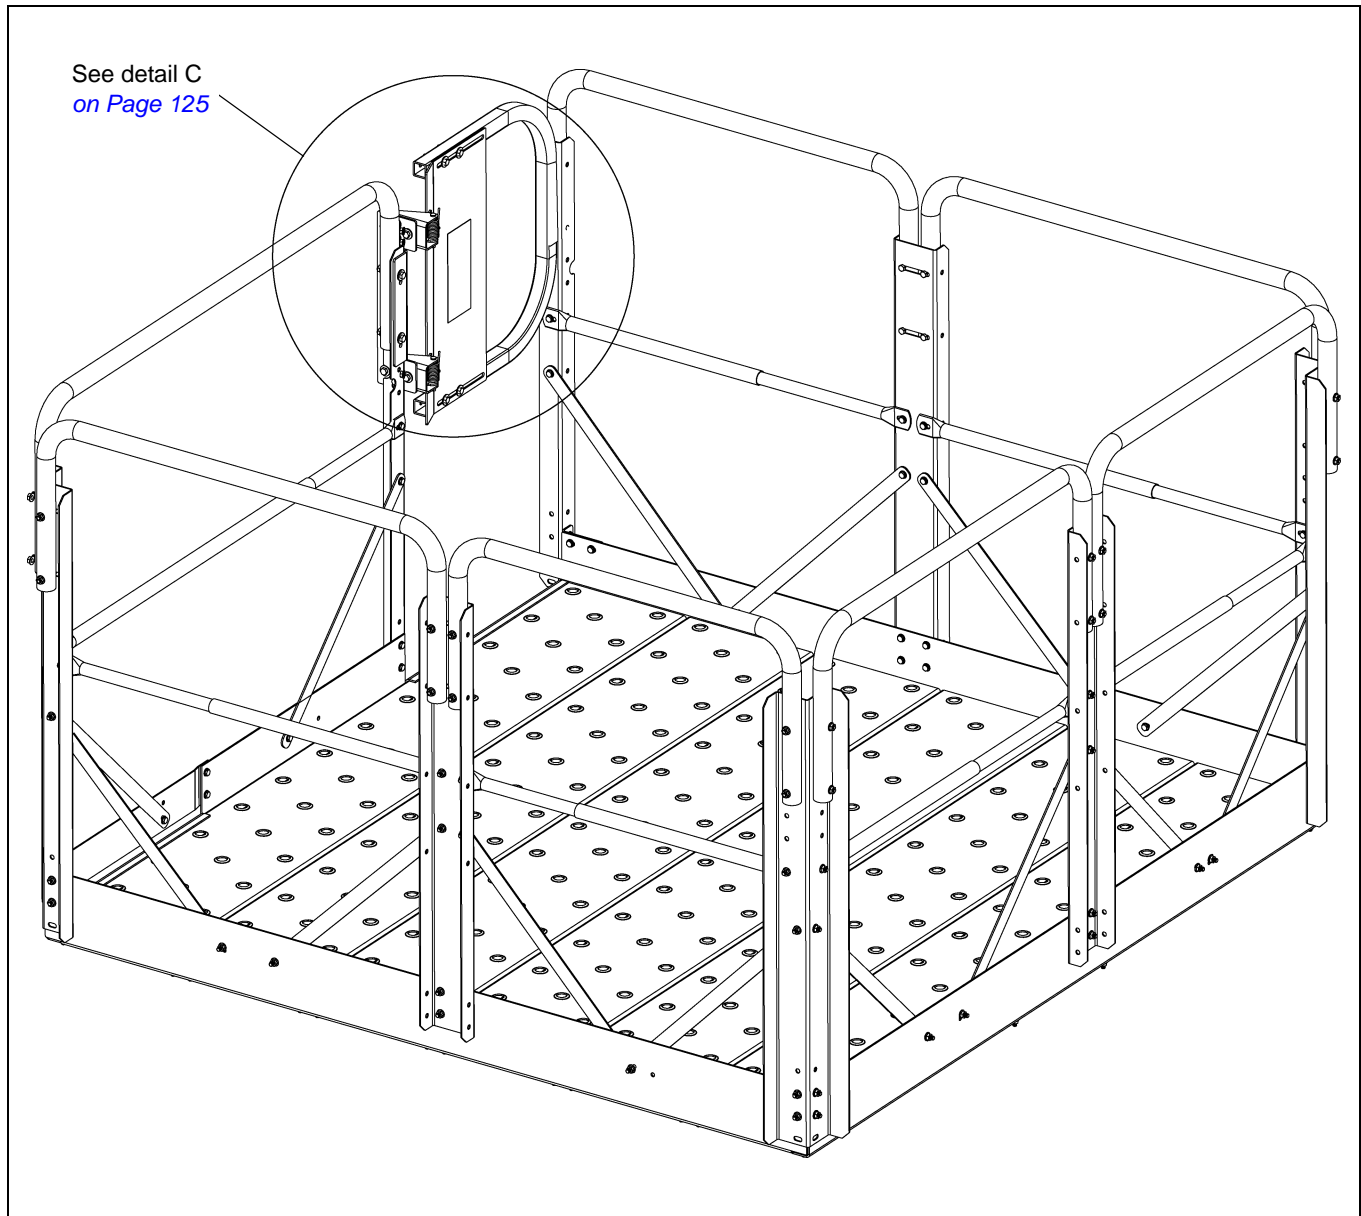
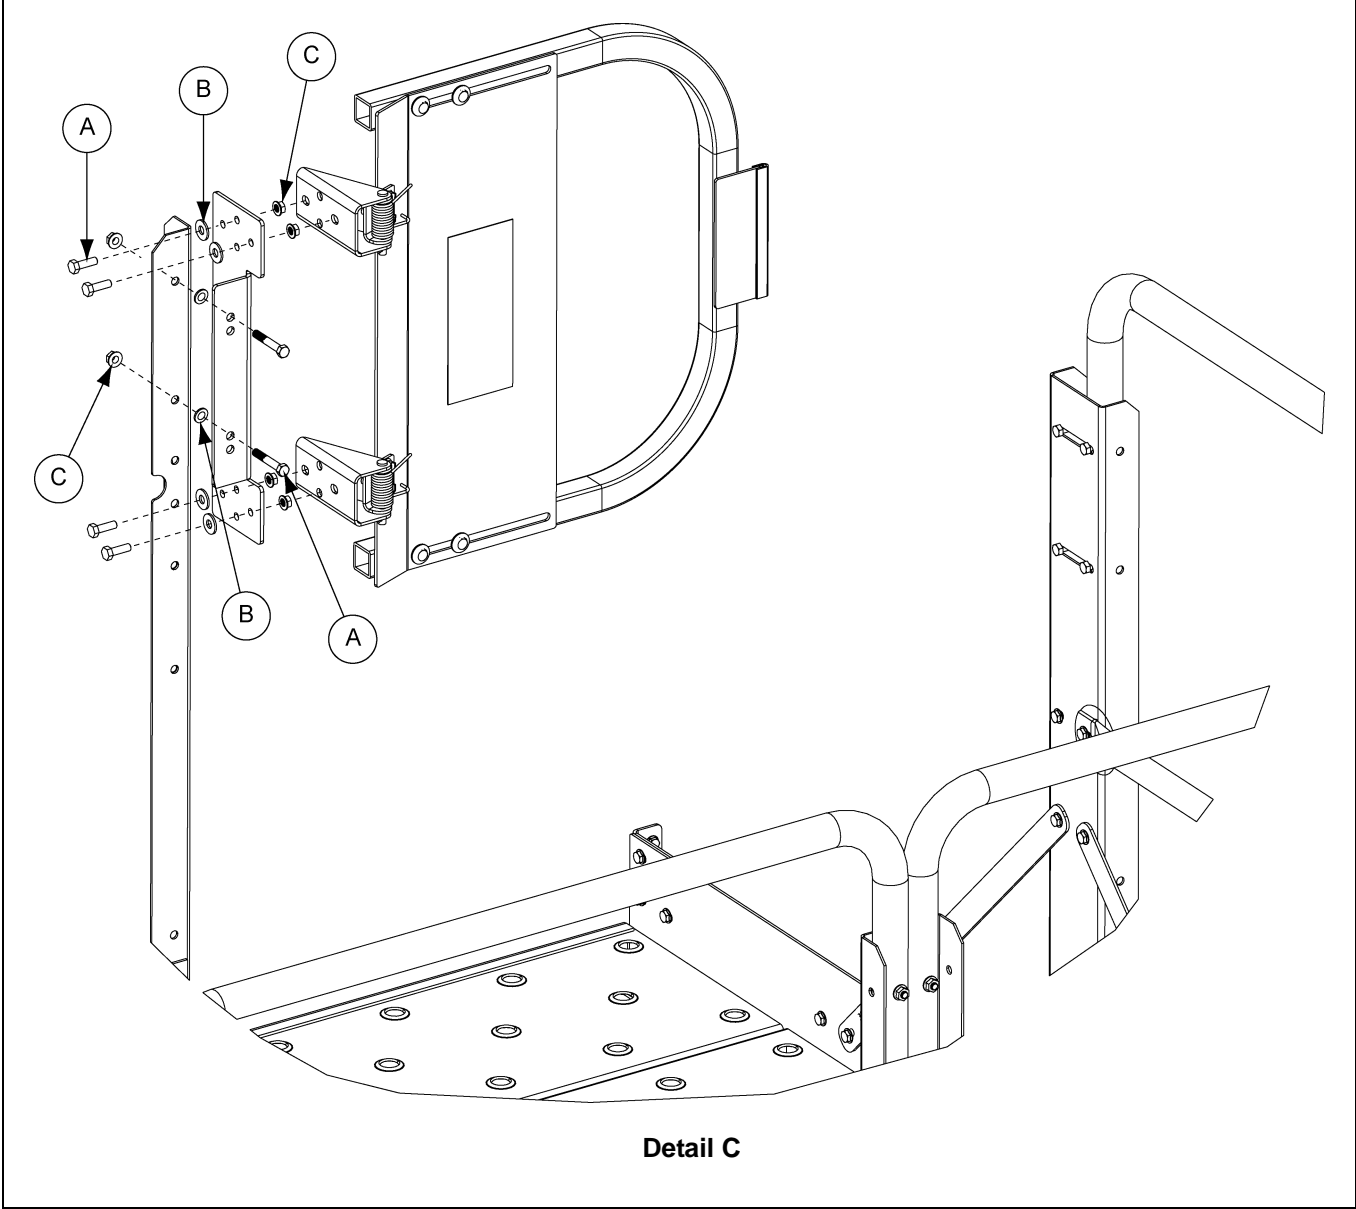

Figure 13P
Figure 13Q
Attach intermediate platform door bracket to two (2) safety gate side posts (HP1648HP) using 5/16" bolt (S-1196) (A), 5/16" flat washer (S-845) (B) and 5/16" flange nut (S-3611) (C). (See Figure 13P below and Figure 13Q on Page 125.)